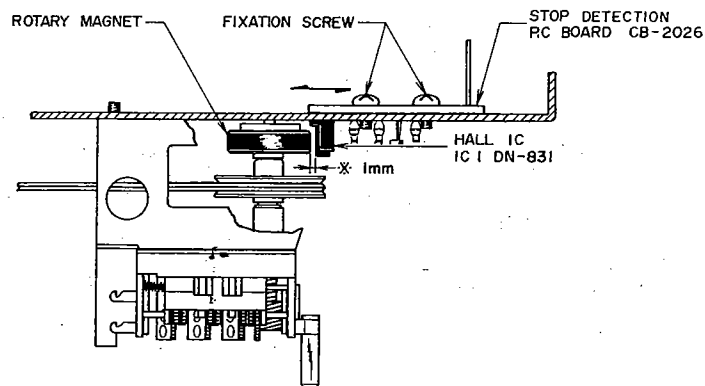

Fig. 11
(Refer to Fig. 11)
- 1) As shown in Fig. 11 move Stop Detection P.C Board as indicated by the arrow mark in the figure, and adjust position so that the clearance between the Hall IC and rotary magnet is 1 mm.